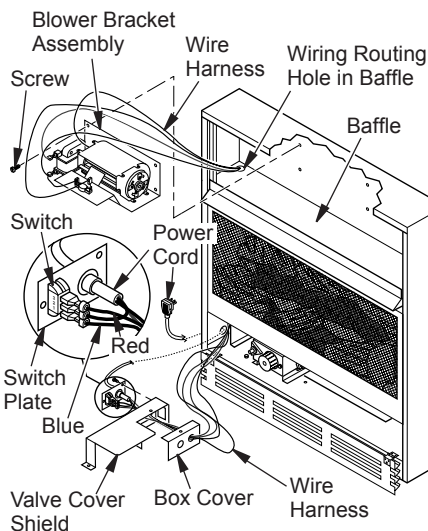
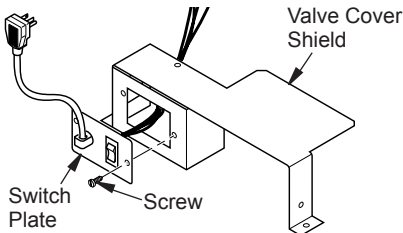
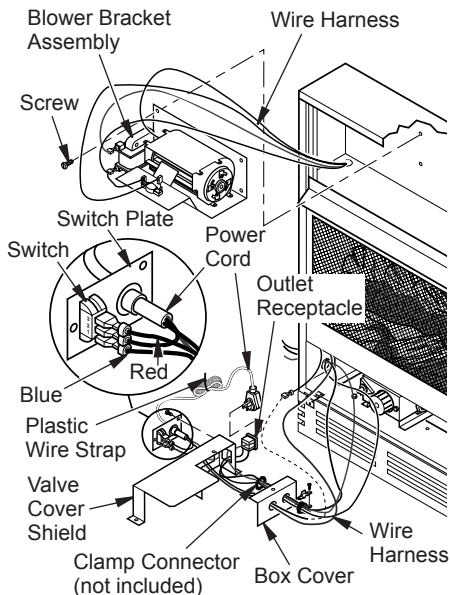

Figure 17 - Installing Blower Bracket Assembly
Figure 18 - Installing Switch Plate to Valve Cover Shield
Figure 20 - Installing Blower Bracket Assembly
3. Note wire locations on back of AUTO/OFF/ON switch. Terminals on back of switch are numbered 1, 2, and 3. Carefully remove red wire from terminal 1 and blue wire from terminal 3. Black wire can remain on middle terminal 2 (see Figure 17).
5. In top of heater cabinet, locate 4 mounting holes on outer casing. Align these 4 holes with those on blower bracket assembly. Attach blower bracket assembly to outer casing with 4 #10 screws provided (see Figure 17).
6. Route wire harness through hole in left side of baffle. Pull wire harness through lower opening above where valve shield was removed (see Figure 17).
7. Insert 4 wire harnesses into one of the round holes in rear of valve cover shield and through rectangular hole in front of shield (see Figure 17).
9. Install switch plate on valve cover shield with 2 #10 screws provided (see Figure 18, page 15). Reinstall valve cover shield. Route power cord out of cabinet by inserting it through bushing on outer casing (see Figure 17). Plug fan kit into 120-Volt grounded power supply and test operation.
5. Plug power cord to the outlet receptacle (not provided) as shown in Figure 18. Wind the extra power cord and tie it up with the plastic wire strap (see Figure 20, page 16). Set the power cord bundle between the burner bracket and outer casing, away from the burner.